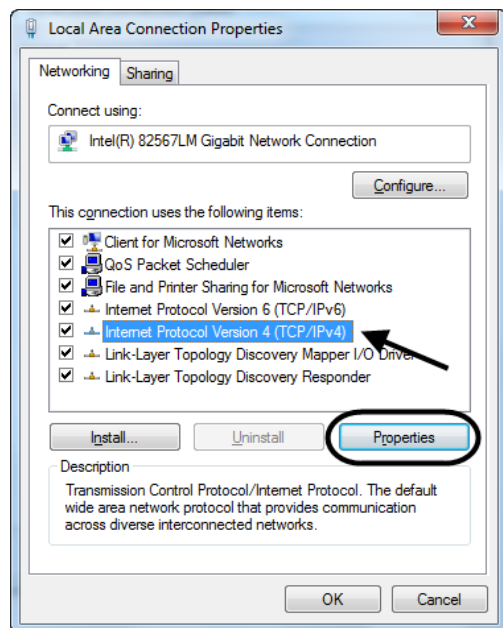

Figure 24
6. Highlight **Internet Protocol Version 4 (TCP/IPv4)** and then click **Properties** (Figure 24).